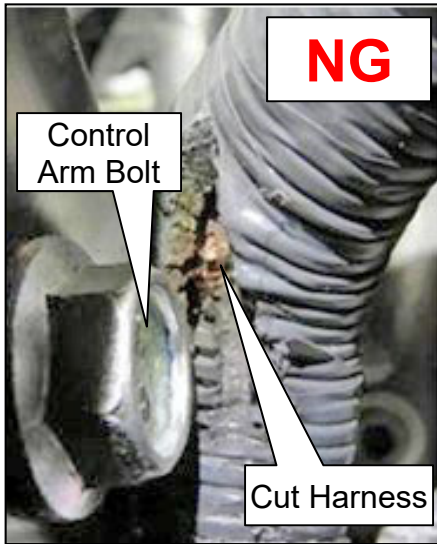
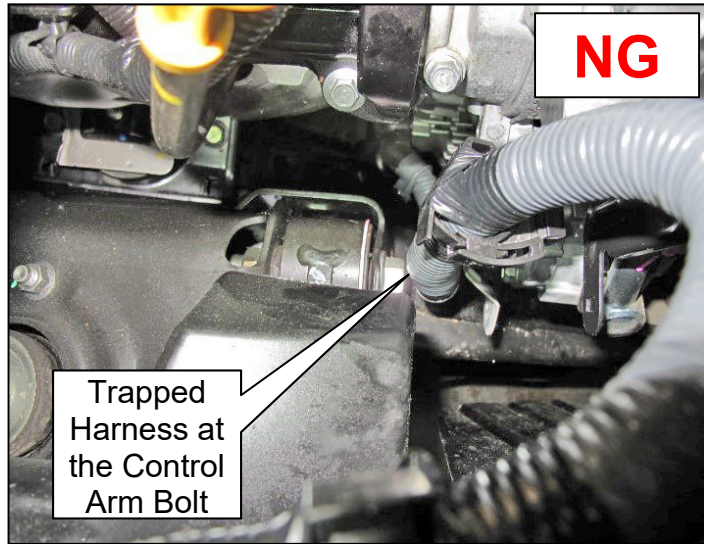

Figure 3
Figure 4
- Follow the length of the generator harness and ensure the harness is not trapped, pinched, or cut (Figure 3 and Figure 4 show an improperly routed generator harness).